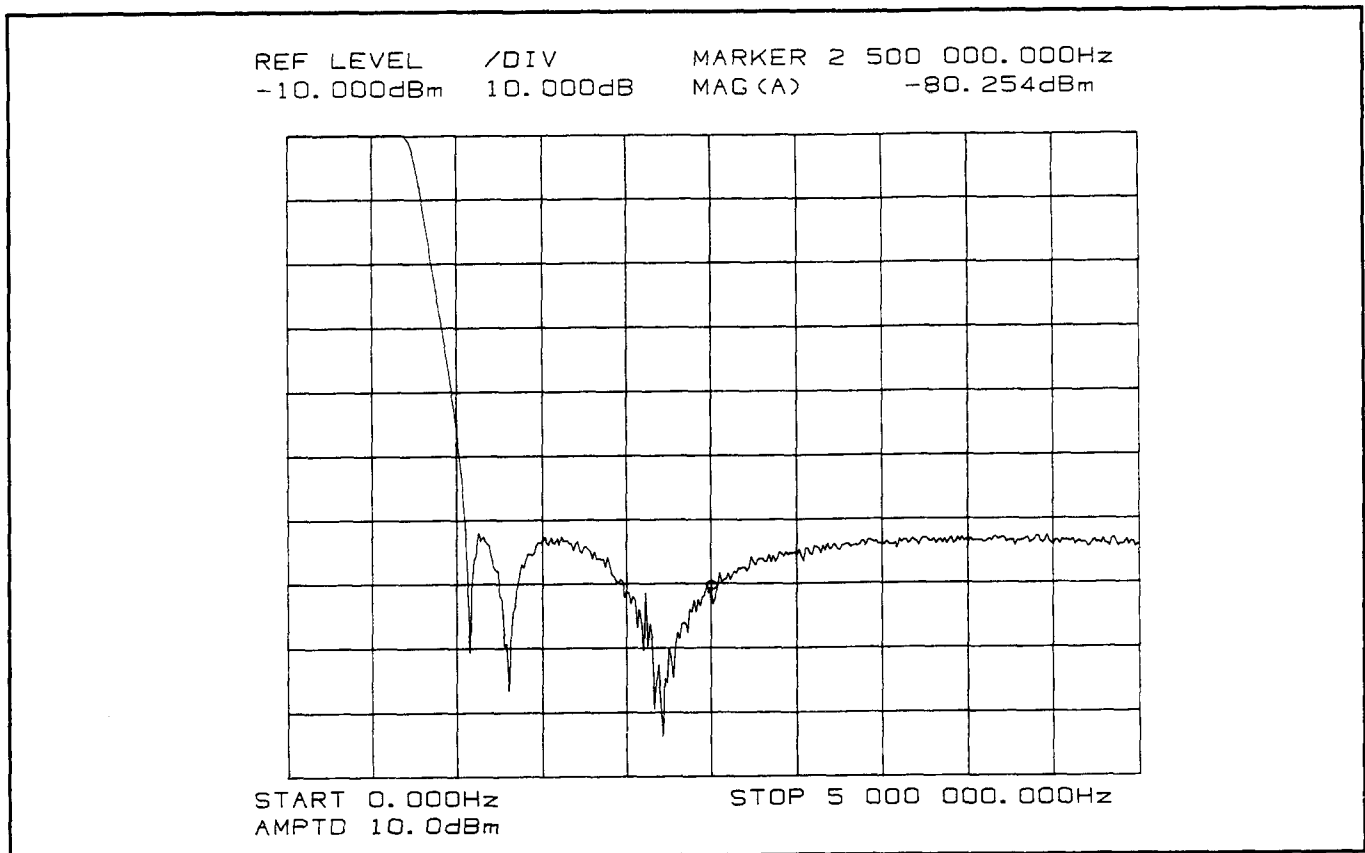

Figure 5-2. Typical Filter Response from 0 to 5 MHz
- d. Set the input attenuation, and scale so that the passband of the displayed filter response is at the top of the display and the notch at approximately 1 MHz is not obscured by noise. Refer to Figure 5-2.